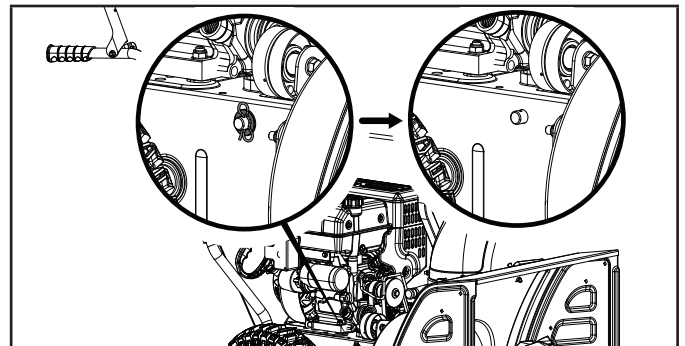
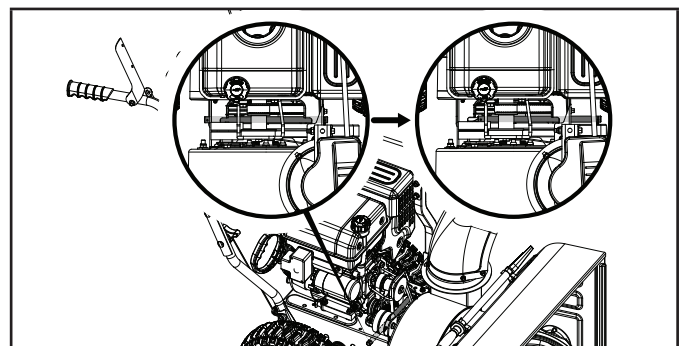

Figure 24B
Figure 24C
2. Remove clip and washer (Fig. 24B), pull support rod ½ way out from other side of snowblower (Fig. 24C).